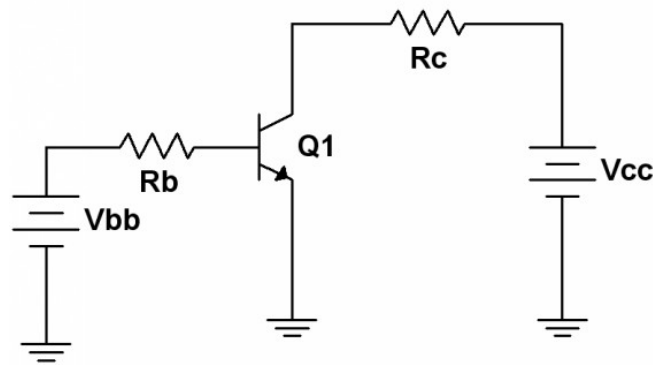

Figure 1
2. Consider the circuit of Figure 1 with  $V_{bb} = 11\text{V}$ ,  $V_{cc} = 15\text{V}$ ,  $R_b = 330\text{ k}\Omega$  and  $R_c = 1.2\text{ k}\Omega$ . Assume  $V_{BE} = 0.7\text{ volts}$ . Further, assume that beta is 150 (a typical value for this device in this application). Calculate the expected values of  $I_B$ ,  $I_C$  and  $I_E$ , and record them in the “Theory” columns of Table 1. Note that the theoretical values will be the same for all three transistors.
4. Build the circuit of Figure 1 with  $V_{bb} = 11\text{V}$ ,  $V_{cc} = 15\text{V}$ ,  $R_b = 330\text{ k}\Omega$  and  $R_c = 1.2\text{ k}\Omega$ . Measure and record the base, collector and emitter currents, and record them in the first row of Table 1. Find the deviations between the theoretical and experimental currents, and record these in Table 1.
8. One way of improving the circuit of Figure 1 is to redesign it so that a single power supply may be used. As noted previously, the base current is largely dependent on the value of  $V_{BB}$  and  $R_B$ . If the supply is changed, the resistance can be changed by a similar factor in order to keep the base current constant. This is just an application of Ohm's law. Based on this, determine a new value for  $R_B$  that will produce the original  $I_B$  if  $V_{BB}$  is increased to the  $V_{CC}$  value (i.e., a single power supply is used). Record this value in Table 3.